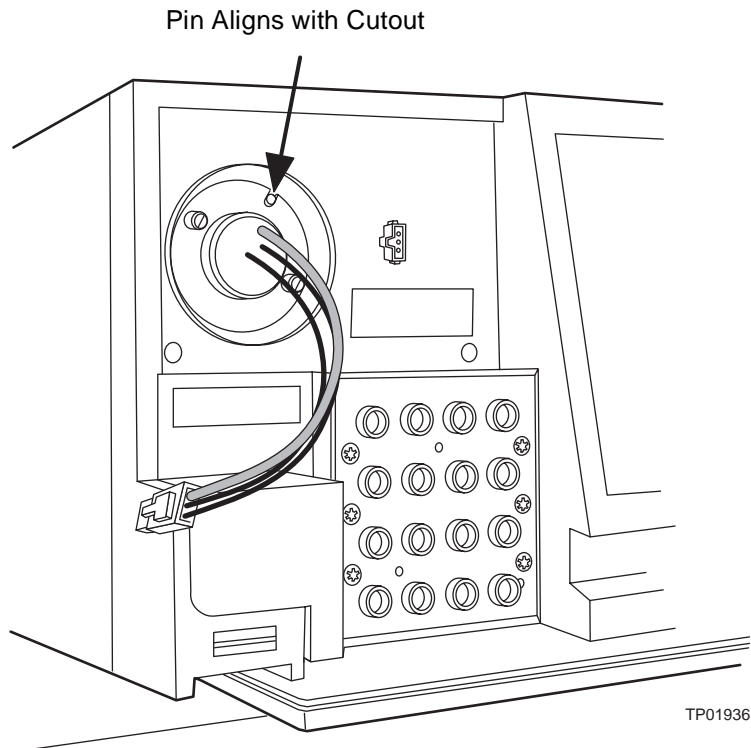

Figure 4-15 Aligning the Lamp
1. Position the lamp so the cut-out located on the lamp base plate is at the 1 o'clock position (Figure 4-15), in line with the alignment pin on the lamp housing. There is no additional alignment required.